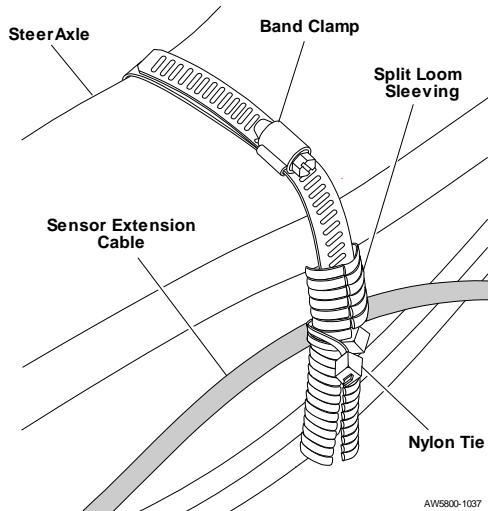

Fig. 15: Securing the Sensor Extension Cable to the Axle
7. Secure the sensor cable to the axle. Run the drive sensor extension cable along the rear of the axle toward the side of the truck (driver's side or passenger's side), securing with a band clamp. Place split loom over the band clamp where it crosses over the cable. Secure the cable to the band clamp with nylon ties. See Fig. 15. Use additional 24" nylon ties as required to secure the cable to the steer axle.